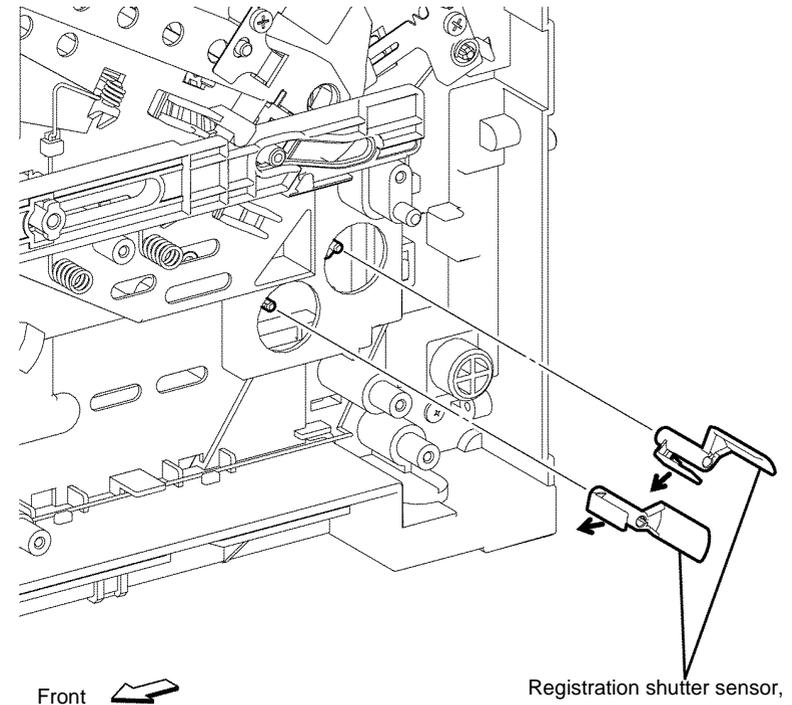

Figure 4 Registration shutter sensor removal
24. Release the hook, then remove the registration shutter sensor, Figure 4.